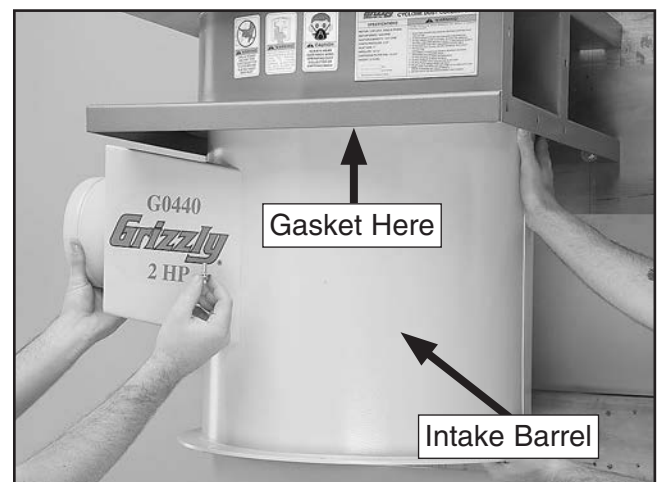

Figure 12. Securing blower on intake barrel.
4. Temporarily attach the intake barrel to the housing with a barrel gasket in between, as shown in **Figure 12**, using (4) $\frac{5}{16}$ "-18 x $\frac{3}{4}$ " hex bolts and (4) $\frac{5}{16}$ " flat washers—and only snug the bolts, rather than fully tighten them.
- Use the (12) $\frac{5}{16}$ "-18 x $\frac{3}{4}$ " hex bolts and (12) $\frac{5}{16}$ " flat washers to re-install the intake barrel to the housing with a barrel gasket in between, as shown in **Figure 12** on the previous page.